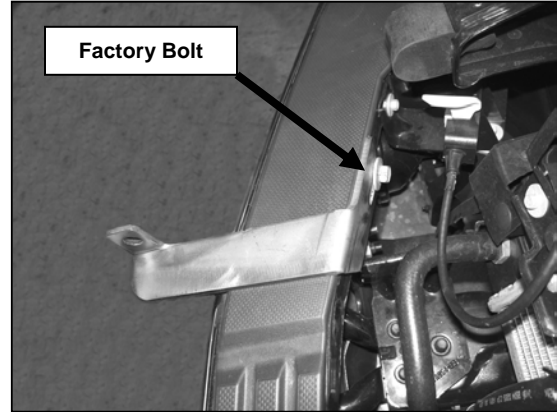

Figure 2
- Open the hood and determine the Top Bracket mounting location. Remove the passenger side inner factory bolt located by the latch released. Place Top Bracket and attach it to vehicle using the factory bolt (Figure 2). Do not tighten at this time.